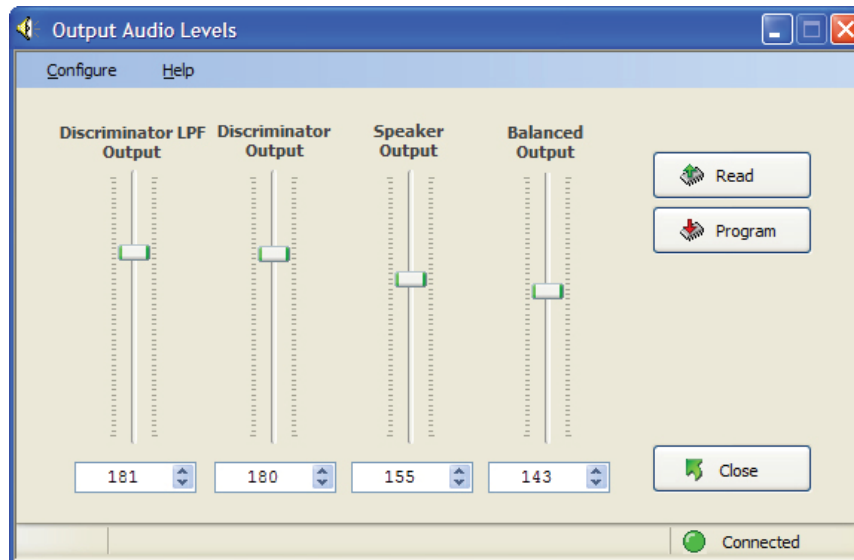

Figure B-8: RSS Receiver Audio Level Adjustment
2. In the Audio Levels area of the Service section on the RSS, adjust the Rx Balanced Audio Output level adjustment as shown in Figure B-8 until -8.0 dBm audio level (0.308 Vrms @ 600 ohms) is measured on the AF Level on the IFR COM-120. If no external 600 ohm load is available, the audio level could be adjusted for approximately 0.585 Vrms in the IFR COM-120.